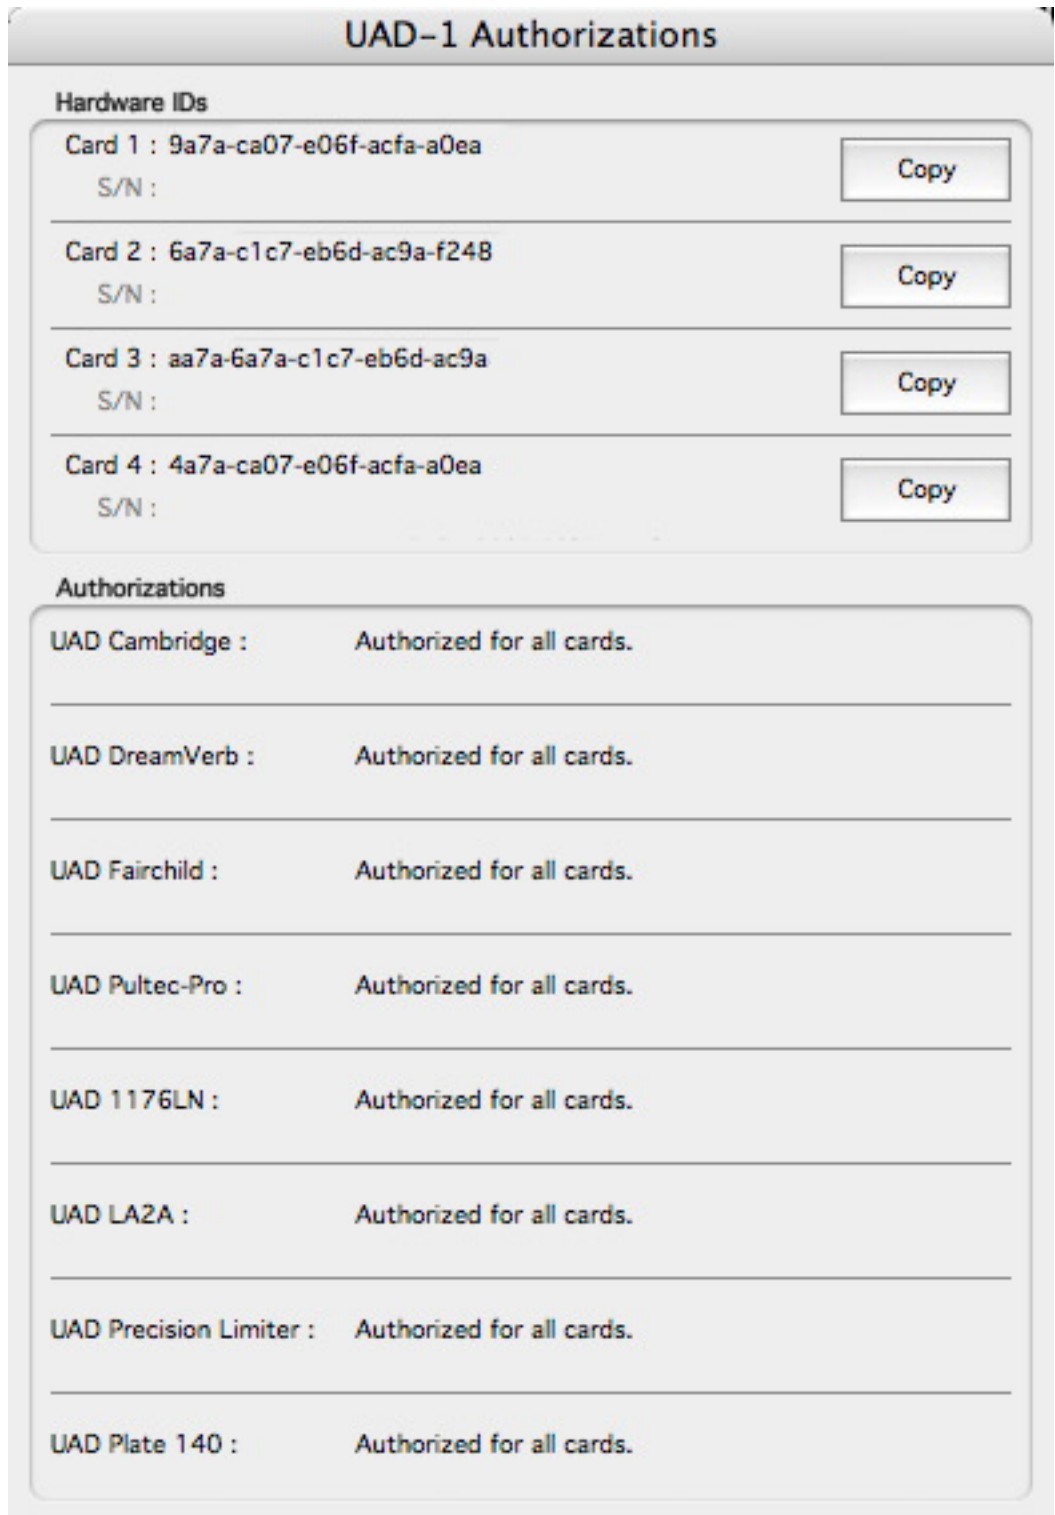

Figure 16. The UAD-1 Authorizations window
The Authorizations window (Figure 16) is accessed within the UAD-1 Meter application.
4. When the UAD-1 Meter is in the foreground, select “Authorizations...” from the System Menu (Windows; page 28) or File Menu (Mac OS; page 29). The Authorizations window (Figure 16 on page 57) appears.